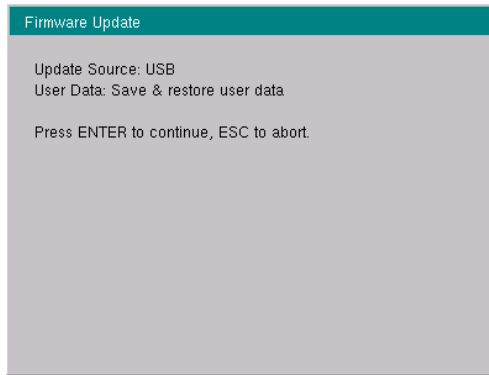

Figure 5-10. Firmware Update Menu
7. The Firmware Update dialog will query you to confirm the process by pressing **Enter** to continue or **Esc** to abort (Figure 5-10).